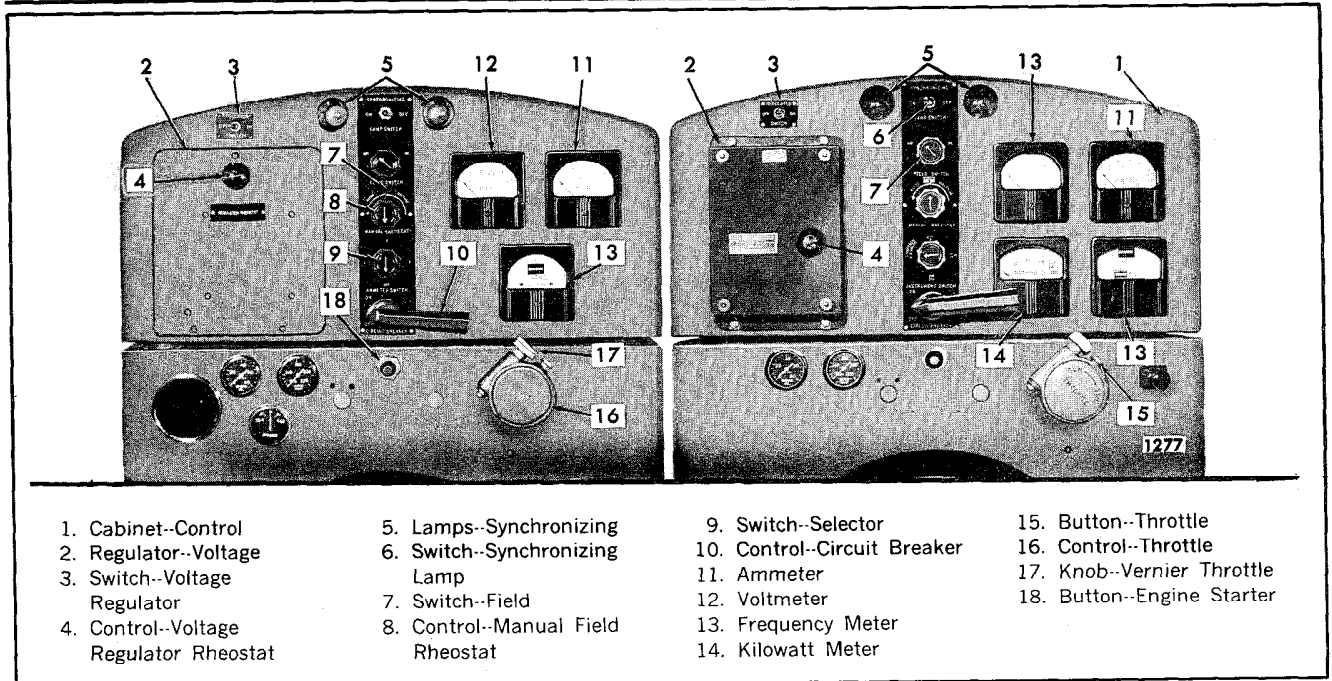

Fig. 1 - Typical Alternating Current Generator Control Cabinets
4. Refer to Fig. 1 and place the circuit breaker (10) in the *off* position.
5. Place the field switch (7) in the *off* position.
6. Place the synchronizing lamp switch (6) in the *off* position.
7. Place the voltage regulator switch (3) in the *off* or *manual* position.
8. Turn the field rheostat knob (8) clockwise to its lower limits.
Press the throttle button (15) and turn the throttle control (16), Fig. 1, counterclockwise to a position midway between *run* and *stop*. Then press the starter button (18) firmly.
1. Bring the engine up to rated speed. Then place the field switch (7), Fig. 1, in the *on* position.
2. Turn the voltage regulator switch (3) *on*.
3. Turn the instrument selector switch (9) to the desired position.
4. Turn the field rheostat (8) slowly in a counterclockwise direction to raise the voltage, while watching the voltmeter, until the rheostat reaches the end of its travel. The voltage regulator will take control of the generator voltage as the field rheostat reaches the end of its travel.
2. Check the voltmeter (12), Fig. 1; the voltage must be the same as the line voltage. Adjust the voltage regulator rheostat control (4) if the voltages are not the same.
3. Place the synchronizing lamp switch (6), of the generator set to be paralleled, in the *on* position.
4. Turn the vernier throttle knob (17) until both sets are operating at approximately the same frequency, indicated by the slow change in the brilliancy of the synchronizing lamps.
6. The division of the kilowatt load between the alternating current generators operating in parallel depends on the power supplied by the engines to the generators as controlled by the engine governors and is practically independent of the generator excitation. Divide the kilowatt load between the sets by turning the vernier throttle knob (17) counterclockwise on the incoming set and clockwise on the set that has been carrying the load (to keep the frequency of the sets constant) until both kilowatt meters indicate that each set is carrying its proper percentage of the total K.W. load. Refer to Item 8 if the sets are not equipped with kilowatt meters.
1. Turn off all the load on the generator when stopping a single engine unit. Shift the load from the generator when taking a set out of parallel operation by turning the vernier throttle knob (17), Fig. 1, until the ammeter (11) reads approximately zero.
2. Place the circuit breaker control (10) in the *off* position.
3. Turn the field rheostat (8) to the fully clockwise position.
4. Turn the voltage regulator switch (3) to the *off* position.
6. Press the throttle button (15) and turn the throttle control (16) to *stop* to shut down the engine.